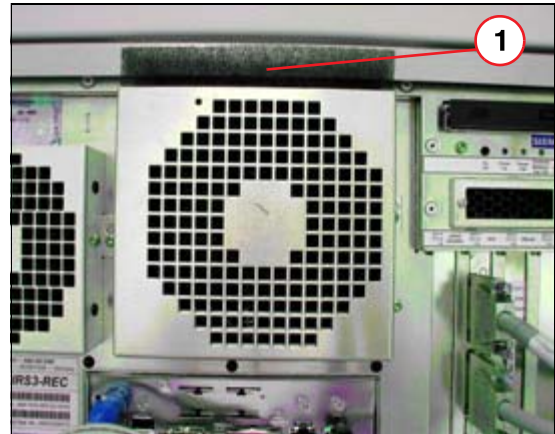

Fig. 13: Replacing the filter pad
- Push the filter pads upward using a screwdriver (1/Fig. 13 / p. 44) and remove it from the filter frame.